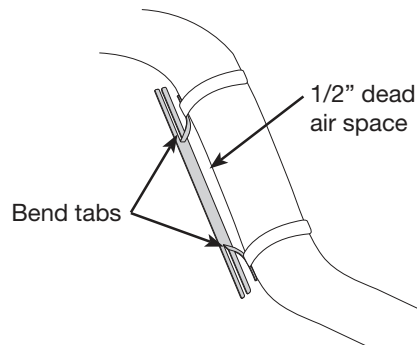

fig. E.5
1. Bend tabs to provide a dead air space between exhaust pipe and heat shield (Fig. E.5). Attach the heat shield to the exhaust pipe using the clamps. Bend the heat shield for maximum clearance to the air spring. Figure E.6 shows the heat shield installed.